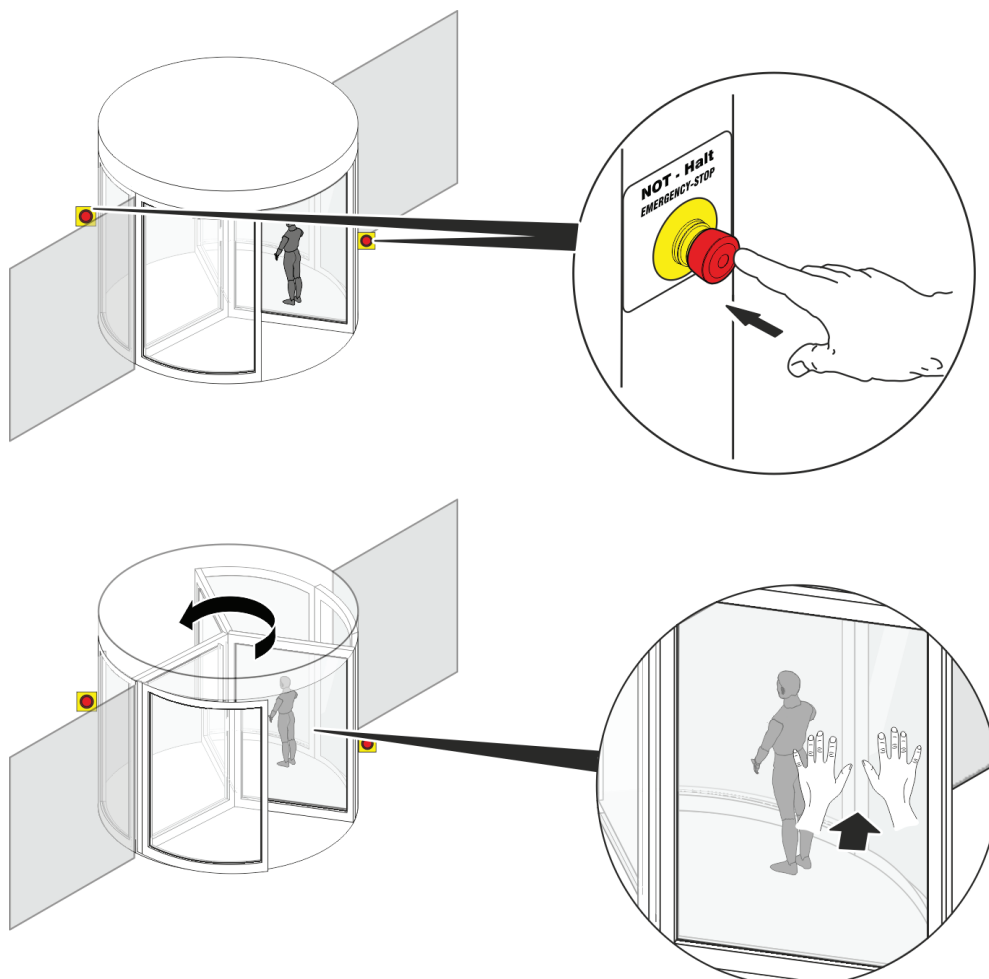

Fig. 3 In case of emergency
1. Press the emergency stop button (Fig. 3) at the entrance or exit.